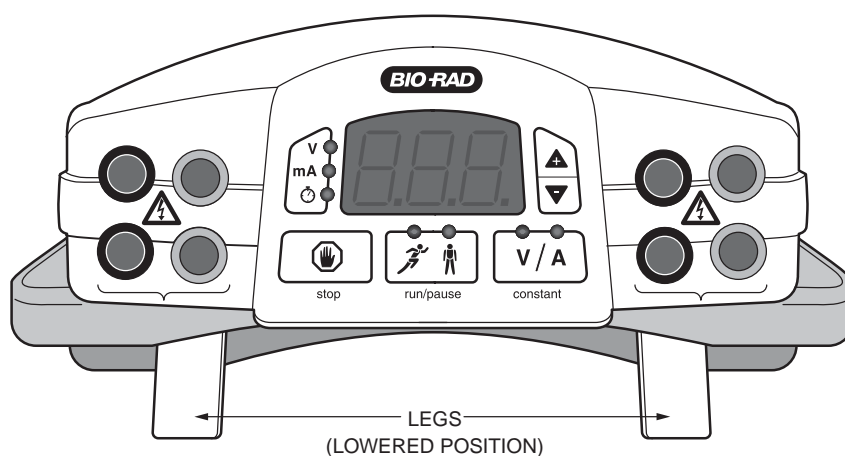

Fig. 3. Front View with Legs in Lowered Position.
- Stackable case with adjustable viewing angle via flip down legs (see Figure 3)